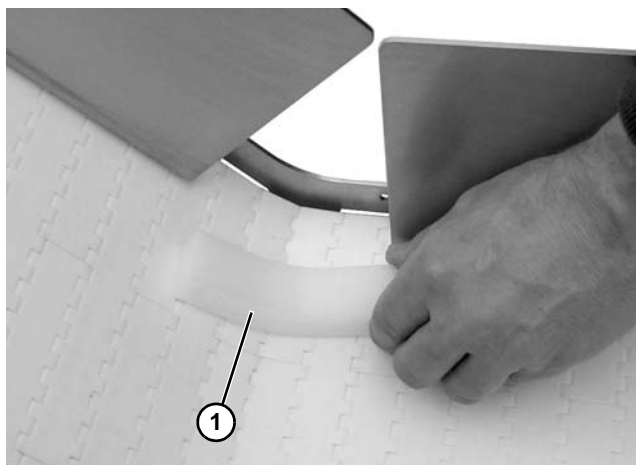

Figure 103
2. Remove wear bar (**Figure 103, item 1**).